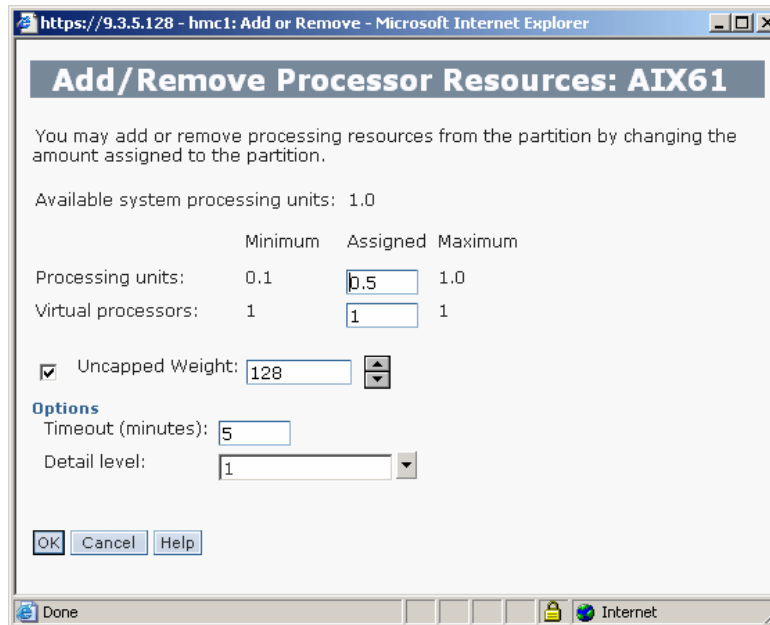

Figure 6-7 Defining the amount of CPU processing units for a partition
2. On HMC Version 7, you do not have to define a certain amount of CPU to be removed or added to the partition. You just have to inform the total amount of processor units to be assigned to the partition. You can change processing units and the virtual processors of the partition to more or less than the current value. The values for these fields have to be between the Minimum and Maximum value defined for them on the partition profile. Figure 6-7 shows a partition being set with 0.5 processing units and 1 virtual processors.